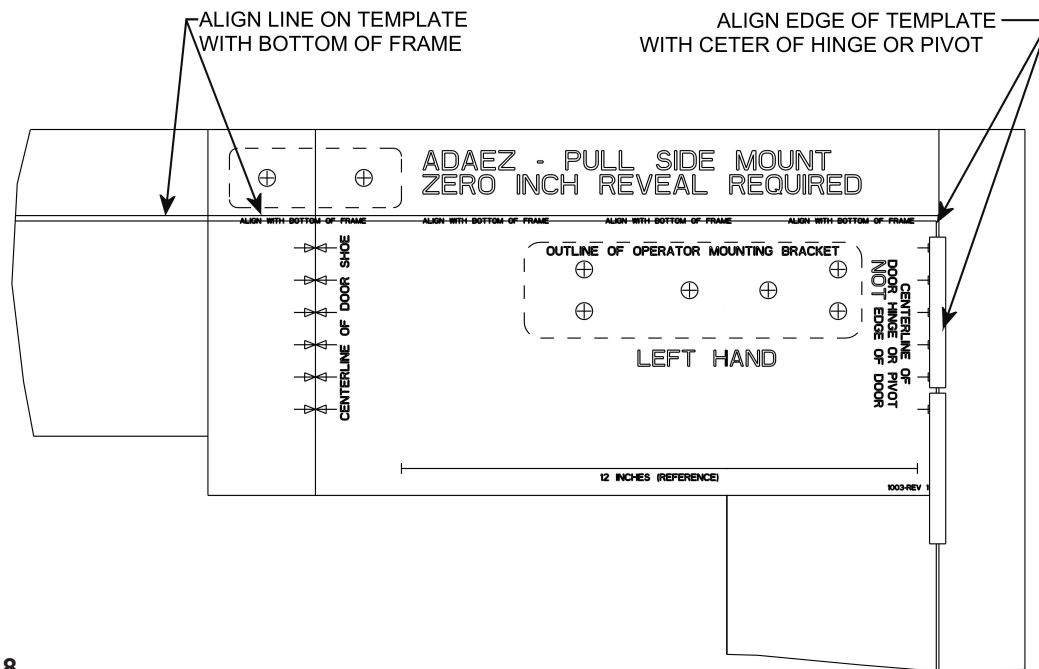

Figure 18
4. Refer to Figure 18, and ALIGN the operator mounting template to the centerline of the butt hinge, center pivot, or offset pivot as applicable.
2. If the door frame is wood, refer to Figure 18 and PERFORM the following: